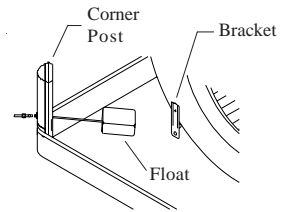

Fig. 8
- **Attach water line to float.** Attach the water supply line to the float in the same manner as above. The float may be installed in either the corner post or bracket (Fig. 8).